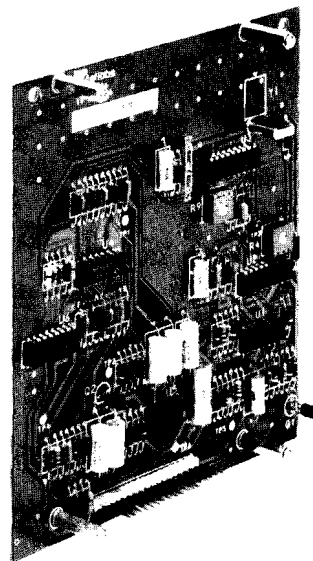

figure 1. 9924 2400/2600Hz International Line Signaling Tone Disabler subassembly
1.01 The 9924 2400/2600Hz International Line Signaling Tone Disabler plug-on subassembly (figure 1) is designed for optional use with Tellabs 6921A, 6921B, and 6921H Echo Canceller modules to render the transmit and receive channels of these modules transparent to 2400/2600Hz multi-frequency (MF) tone transmission in MF signaling environments.